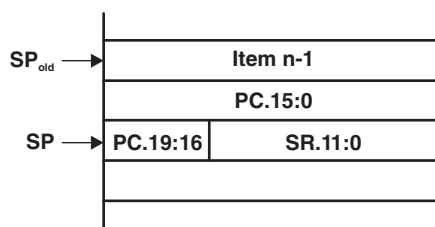

Figure 5-2. PC Storage on the Stack for Interrupts
During an interrupt, the program counter (PC) and the status register (SR) are pushed onto the stack as shown in Figure 5-2. The MSP430X architecture stores the complete 20-bit PC value efficiently by appending the PC bits 19:16 to the stored SR value automatically on the stack. When the RETI instruction is executed, the full 20-bit PC is restored making return from interrupt to any address in the memory range possible.